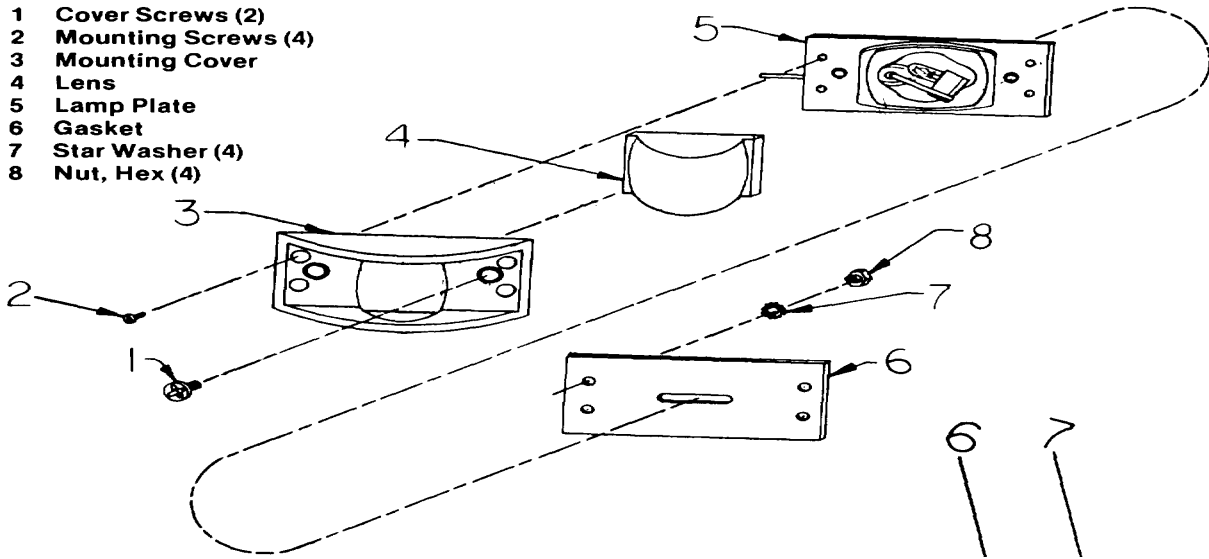

Figure 26. MARKER & CLEARANCE LAMPS
b. Removal. Refer to Fig. 26 and remove 4 mounting screws, nuts and washers (Items 2, 8 & 7). Unplug electrical connection.
e. Assemble lights by referring to Figures 26 & 27.